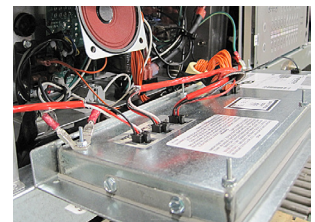

Figure 4
- The controller is hinged at the bottom and will swing open from the top (see Figure 4).